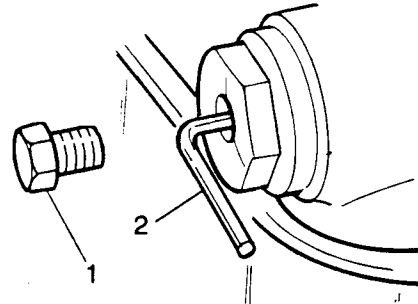
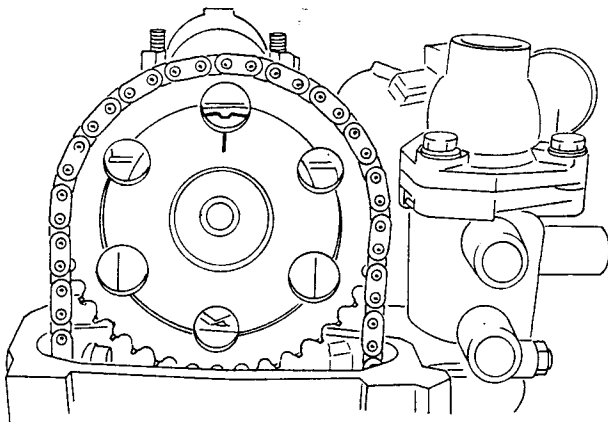

Fig B4.70
Fig B4.73
- (15) Refer to Fig B4.70. Remove the chain tensioner adaptor screw (1).
- (16) Insert a 3,17 mm allen key (2) and turn it 90° clockwise to retract the chain tensioner.
(4) Refer to Fig B4.73. Fit the camshaft sprocket and locating pin. Check that the timing marks on the sprocket and cam cover align, then replace the bolt and tighten to 47 N.m.
(5) Replace the chain over the sprocket.
(6) Release the chain tensioner by turning the allen key (Fig B4.70) 90° counterclockwise.
(7) Remove the allen key and replace the adaptor screw.
(8) Refit the distributor cap and the spark plug leads.
(9) Replace the cam cover, using a new gasket and secure with the eight flanged bolts and O-rings. Tighten the bolts to 8 N.m.